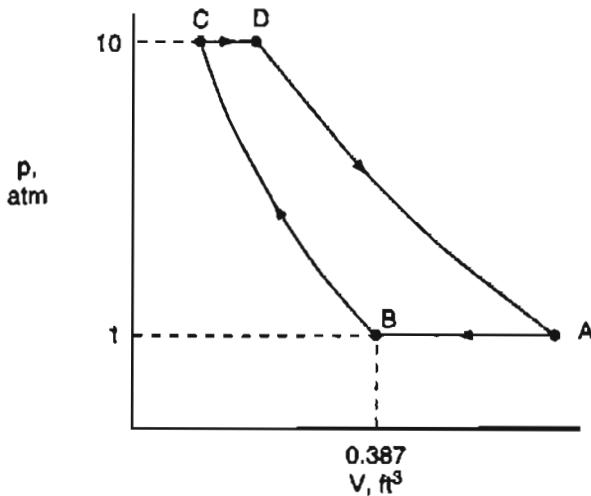

Figure P22.13
- ***22.13 A quantity of an ideal gas goes through the ideal cycle shown in Figure P22.13. Calculate: